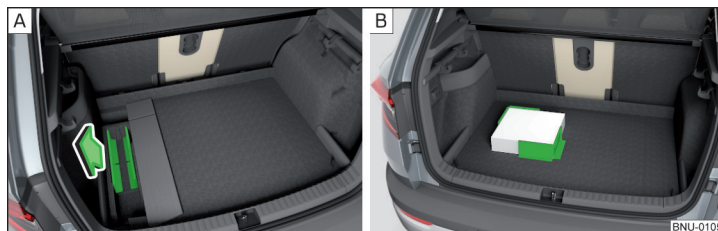

Fig. 150 Removing cargo element / Load fastening example
- › Before use, remove the Cargo elements in the direction of arrow » Fig. 150 - **A**.
- › Use the cargo elements to secure the load as close as possible to the rear seats » Fig. 150 **B**.